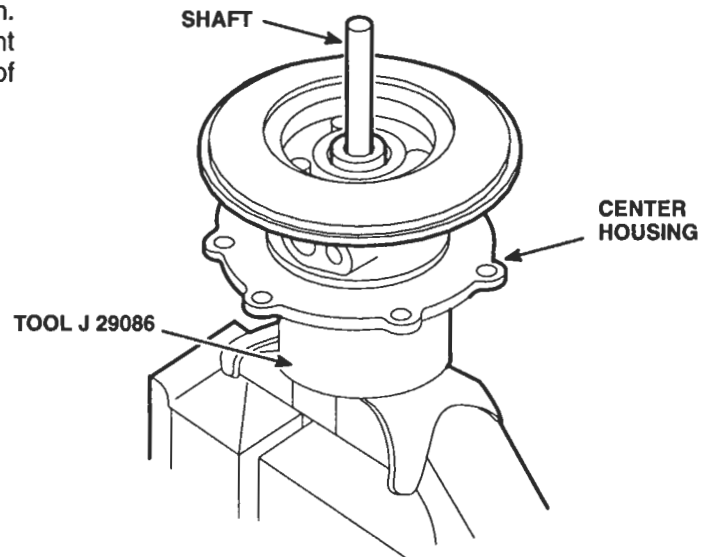

Figure 26. Center Housing on Shaft Installation
4. Lubricate the shaft bearing journals with engine oil, then place the center housing over the shaft with the turbine end of the housing facing down. Carefully lower the center housing straight down over the shaft until it seats on the hub of the turbine wheel (Figure 26.)